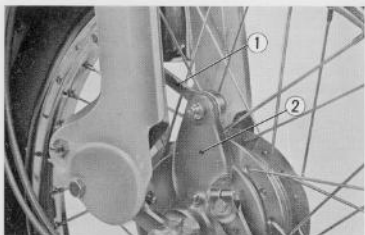

Fig. 4.32 Disconnect front brake torque link
① 36 mm hook spanner ② Steering head top thread
3. Place a suitable stand under the engine and remove the front brake torque link ① from the front brake panel ②. (Fig. 4.32)